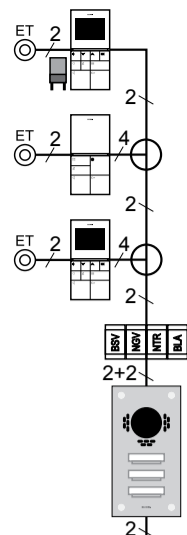

Figure 8: Stub structure without video distributor
In a stub structure without a video distributor (to and from wire in a cable), wrapped cables (e.g. J-Y(ST) Y or CAT) must be used in pairs (Figure 8).